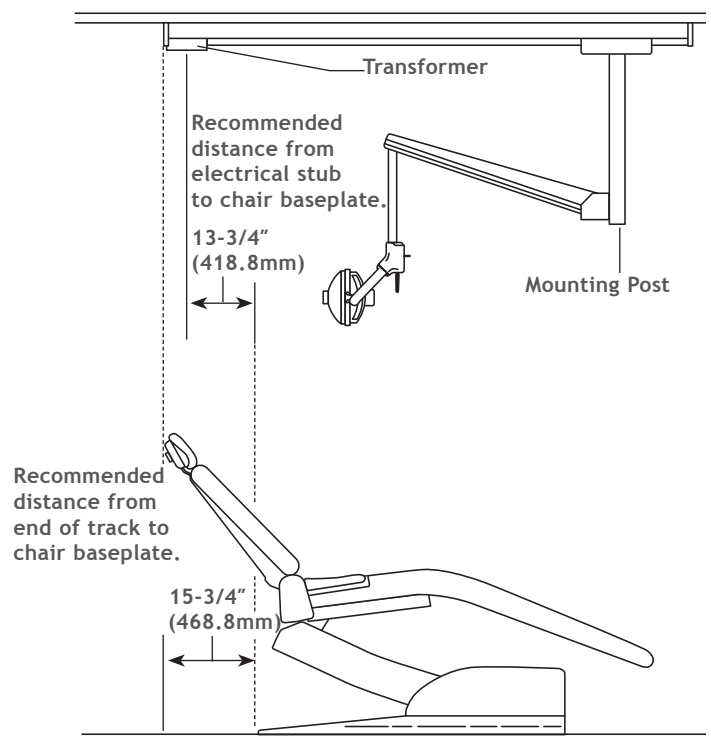
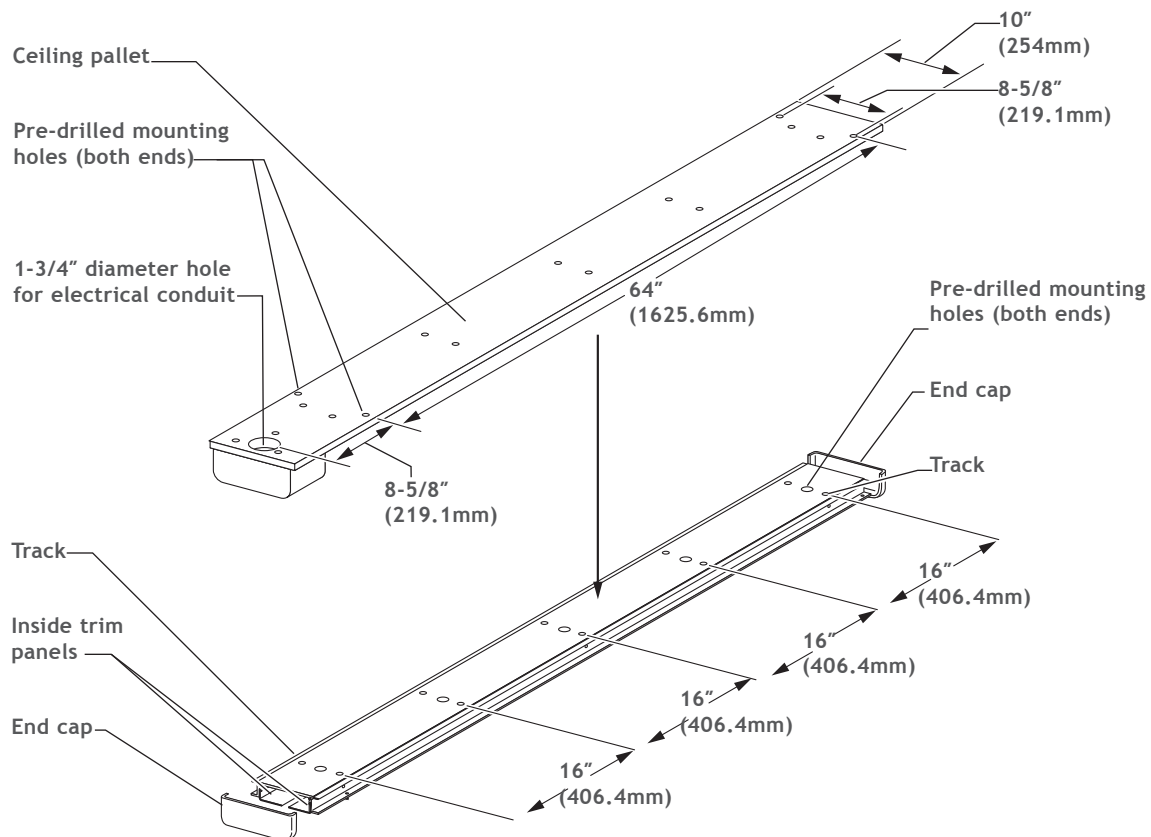

Figure 2. Recommended distances for positioning
Figure 3. Removing the inside trim panel
Electrical wiring must be installed by a licensed electrician according to local building codes and must meet the following additional requirements. Installation must comply with prevailing codes. A-dec recommends installation of a wall switch between the power source and the dental light transformer. A wall switch provides safety and convenience during installation and service. For transformer wiring information, refer to page 7. Electrical power/transformer and data lines are available above the head of the chair (see Figure 2 and box template) at a point 13-3/4" (349.2 mm) from the edge of the chair baseplate.
1. Consult your operatory floor plan, and the dimensions shown in Figure 2 and Figure 3 to determine the track light location.